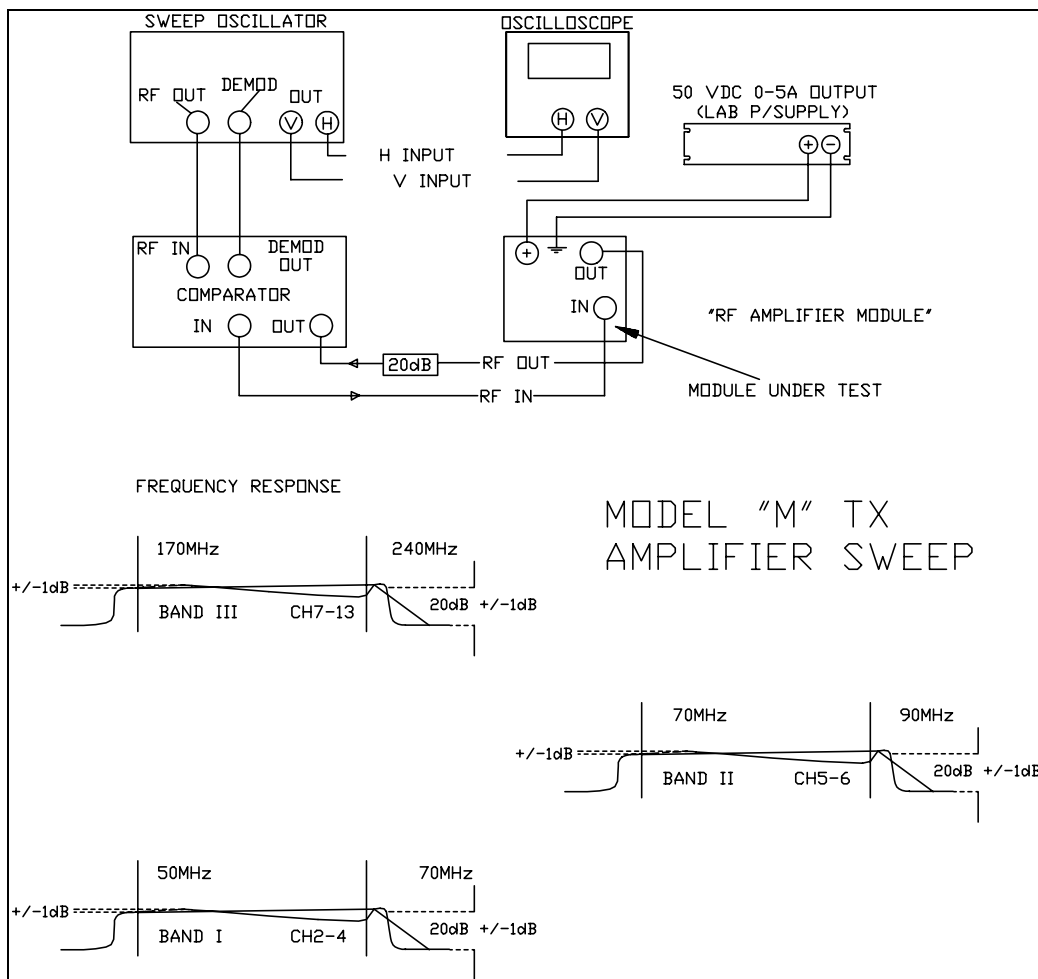

Figure 1 Module Sweep Setup
2. Connect the module to a sweep system, typically as shown in Figure 1. The sweep generator should be adjusted to give a linear sweep from about 45 to 75 MHz, or from 65 to 95 MHz, to sweep the part of Low Band that the module is intended for, with a small amount of out-of-band signal on both ends. Ensure that a coaxial 20 dB attenuator pad is connected to the RF output of the amplifier, in order to prevent possible damage to the sweep comparator.
The swept in-band frequency response, for Low Band modules, should be essentially flat within  $\pm 1$  dB as shown in Figure 1, with gain approximately  $20 \pm 1$  dB.